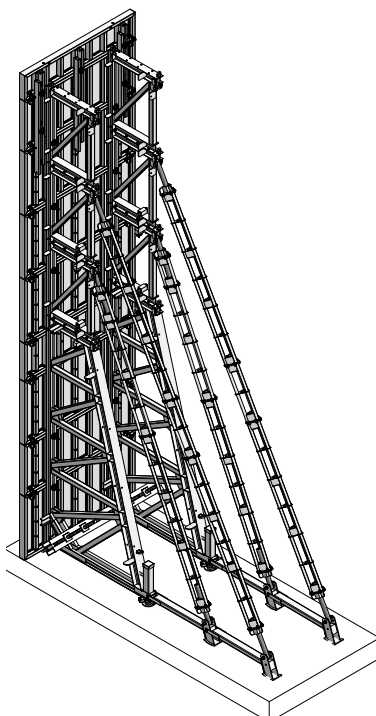

Fig. 11.3 Up to a formwork height of 9.40 m:
- Up to 9.40 m – Three height extensions, base extension, Triplex SB braces (Fig. 11.3)